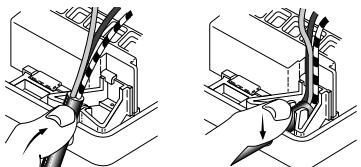

Fig 3a Installation of bottom cable outlets Fig 3b
- Press the outer sheath of the cable into the jaws of the clamp with a forward and downward movement, as illustrated in **figures 3a & 3b**. The jaws **must** clamp on the outer sheath.